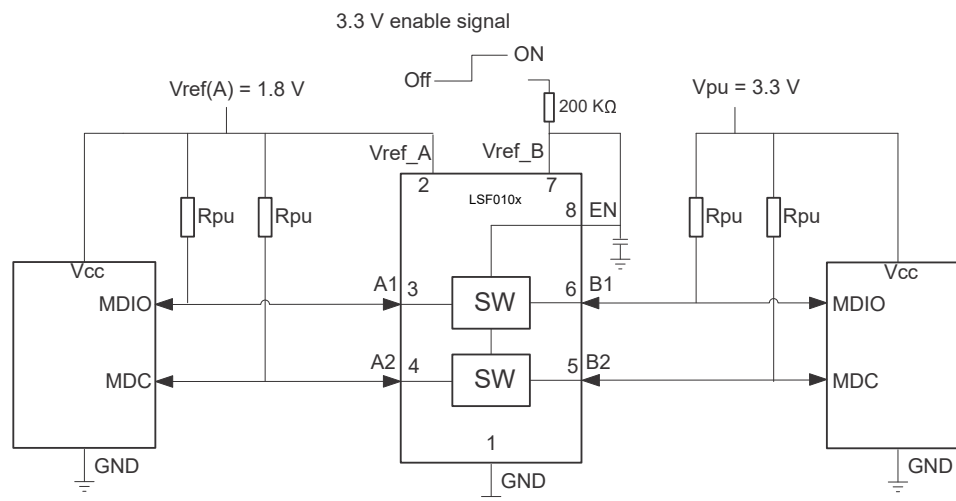

Figure 9-1. Typical Application Circuit for Open-Drain Translation (MDIO Shown as an Example)
- V_{CCB}/V_{CCA} are not the same as V_{ref_B} or V_{ref_A} : V_{CCB} refers to the B-side supply voltage supplied to the LSF device, while V_{ref_B} refers to the voltage at the V_{ref_B} pin (pin 7 of Figure 9-1) on the other side of the 200 k Ω resistor.